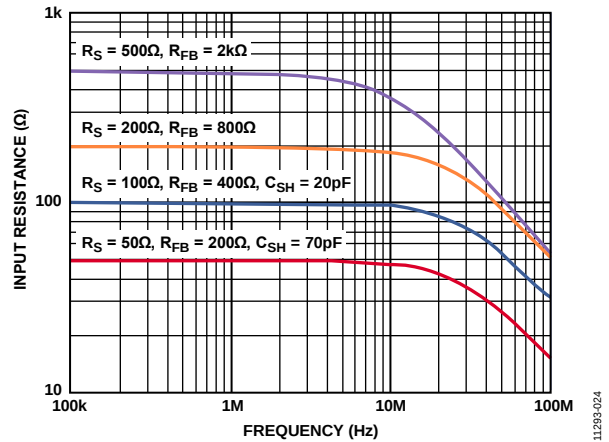

Figure 34. Input Resistance (R_{IN}) vs. Frequency for Various R_{FB} Values (Effects of R_S and C_{SH} Are Also Shown)
The bandwidth (BW) of the LNA is greater than 80 MHz. Ultimately, the BW of the LNA limits the accuracy of the synthesized R_{IN} . $R_{IN} = R_S$ up to approximately 200 Ω. The best match is between 100 kHz and 10 MHz where the lower frequency limit is determined by the size of the ac coupling capacitors and the upper limit is determined by the LNA BW. Furthermore, the input capacitance and R_S limit the BW at higher frequencies. Figure 34 shows input resistance (R_{IN}) vs. frequency for various R_{FB} values.
For larger R_{IN} values, parasitic capacitance starts rolling off the signal BW before the LNA can produce peaking. C_{SH} further degrades the match; therefore, do not use C_{SH} for values of R_{IN} that are greater than 100 Ω (see Figure 34).